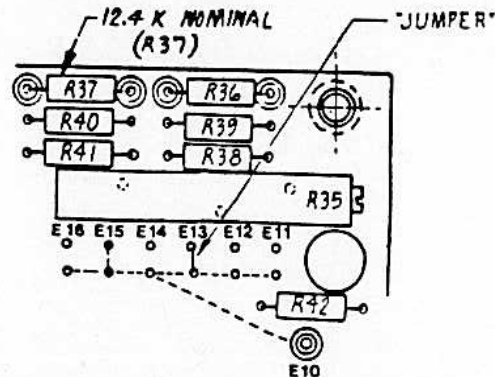

Figure 5.7 Location of Frequency Correction Compensation Jumper on Synthesizer Board Assembly.
- 5.14.4.3 Lay the jumper across the E10/E15 or E10/E14 terminals as illustrated in Figure 5.7 and carefully solder the jumper in place.
5.15.1 Remove the UUT from its outer cover by removing the twelve (12) screws and washers from the outer cover sides located near the baseplate end of the UUT. Then remove the four (4) screws and related washers on the connector end and carefully slide the UUT out of the outer cover. The "C-field" current is adjusted by changing pre-selected jumper wires or recalculating the required value of R37 and replacing R37 if necessary. Locate the compensation jumper connections on the synthesizer board. Refer to Figure 5.7.
Terminal E15 is normally jumpered to E10 at the factory, (dotted-line connections in Figure 5.7). If a jumper is installed between E10 and either E14 or E15 perform subsection 5.15.3 and omit subsection 5.15.4. If a jumper is installed between E10 and E16 omit subsection 5.15.3 but perform 5.15.4. It may be also necessary to perform 5.15.5). If E10 is not jumpered to either E14, E15, or E16 omit subsection 5.15.3 and 5.15.4 but perform subsection 5.15.5.